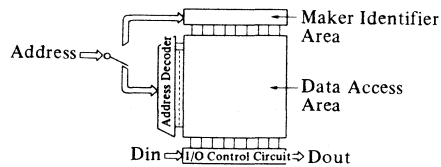

Fig. 2.32
Following programming condition is; ① program voltage, ② program timing, ③ high speed programming algorithm, ④ pin configuration. EPROM has maker identifier code area besides memory access area, as shown in Fig. 2.32.